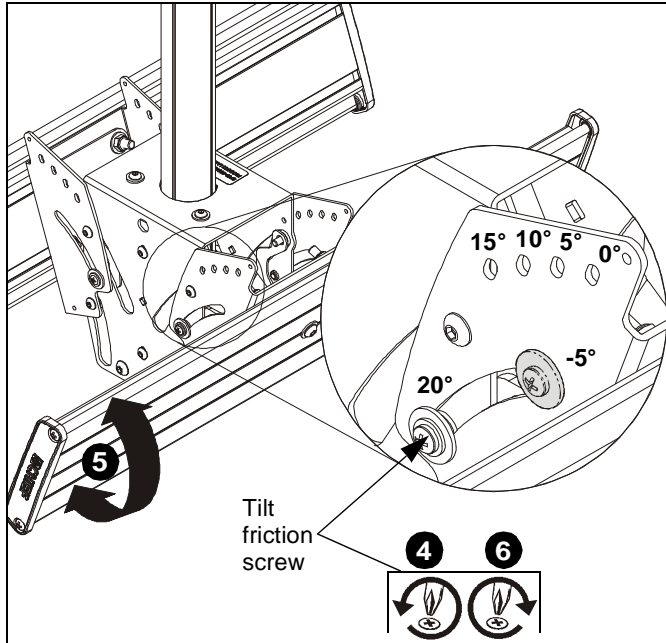

Figure 10
4. Loosen two tilt friction screws (located each side). (See Figure 10)
5. Adjust tilt as required. Note specific degrees of tilt. (See Figure 10)